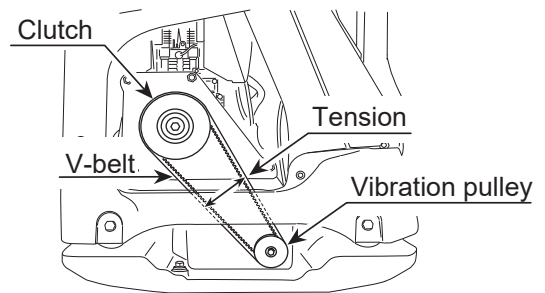

Fig.42
- 1 **Check of V-belt** (Fig. 42)